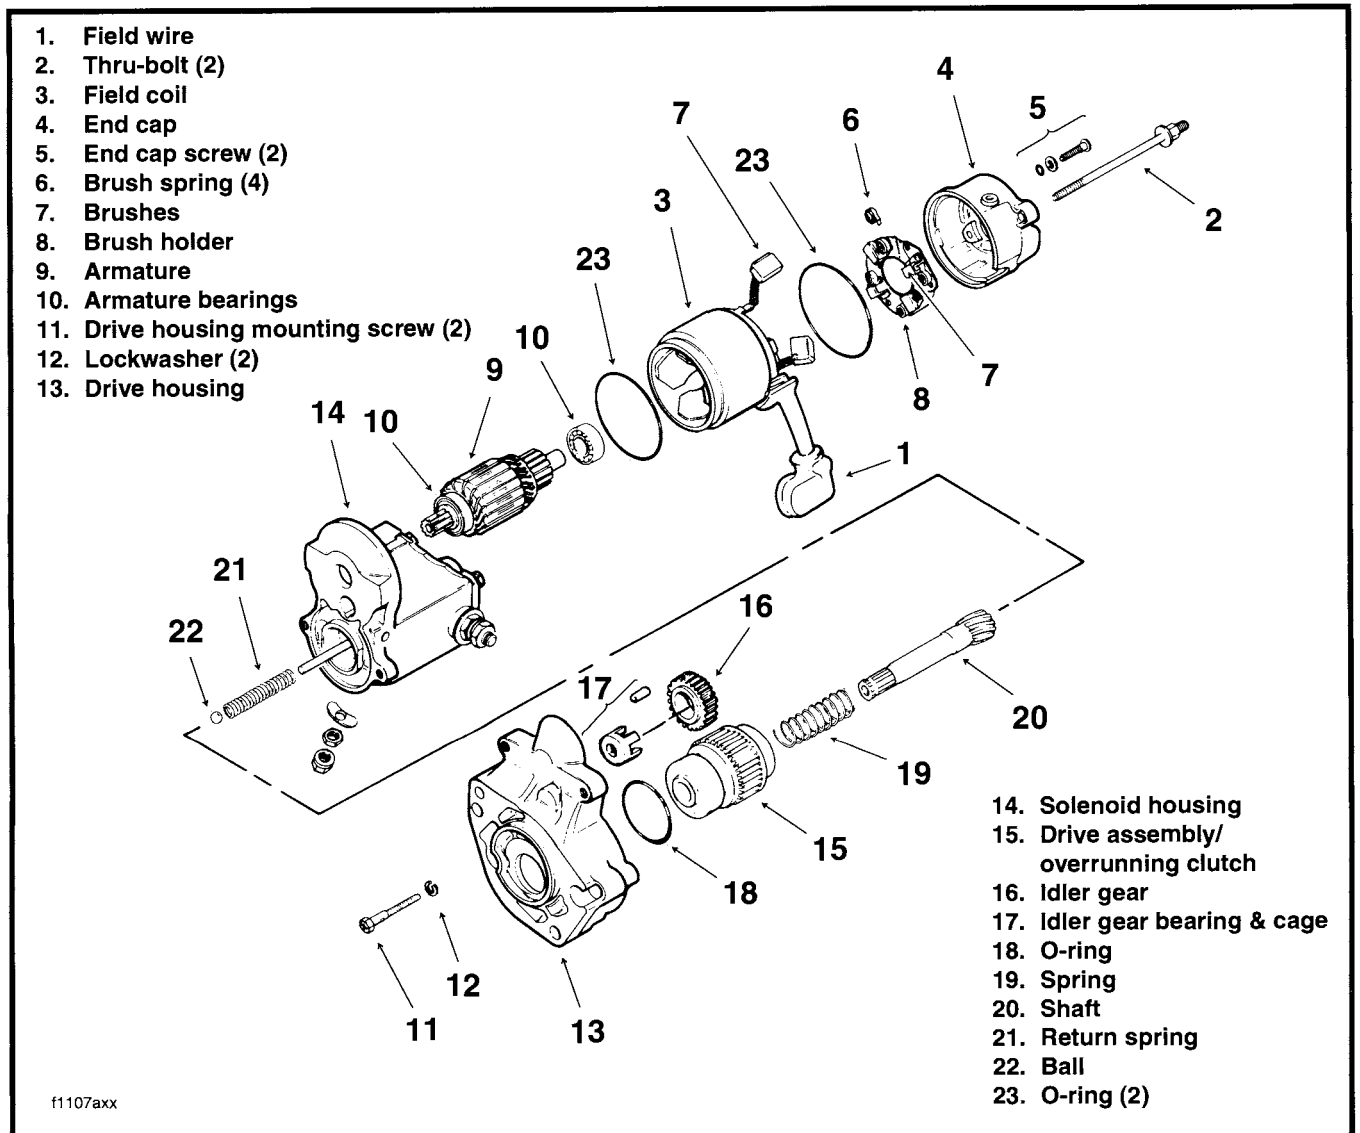

Figure 68. Starter
1. See Figures 68, 69. Disconnect field wire (1).
2. See Figures 68, 70. Remove thru-bolts (2). Remove field coil (3) and cap (4).
4. See Figures 68, 73. Disengage brush springs (6) and pull field coil brushes (7) out of brush holders (8).
6. See Figure 68. Remove armature (9).
16. See Figure 68. Check armature bearings (10) and replace if necessary.
See Figure 68. Spring (21) and ball (22) are loose in shaft gear end.
17. See Figures 68, 81 and 82. Remove the two drive housing mounting screws (11) and washers (12). Remove drive housing (13) from solenoid housing (14).
18. See Figures 68 and 83. Remove drive (15), idler gear (16) and idler gear bearing (17) from drive housing (13). O-ring (18) is in groove in drive housing.
19. Remove spring (19) and shaft (20).
ASSEMBLY (Figure 68)
1. See Figure 68. Replace O-rings (18, 23).